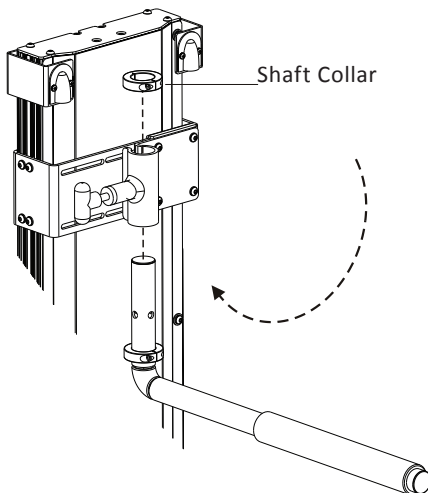

Figure 5-14
2. Flip the hold-down arm, insert it from the bottom, and fasten the shaft collar on top (10 ft-lbs). *See Figure 5-14.*